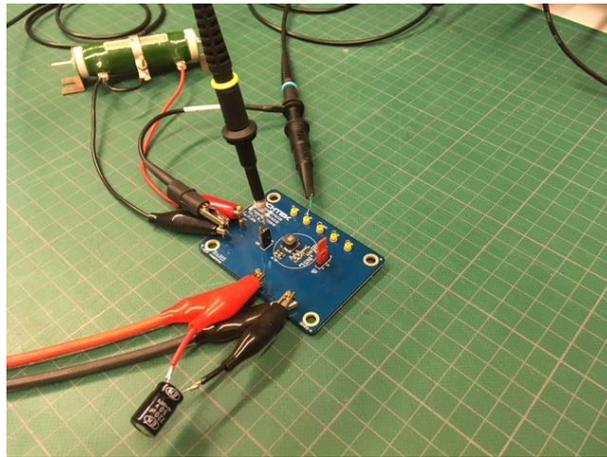

Figure 18
7.2 Second measurement setup with small ground loop: (Figure 18)